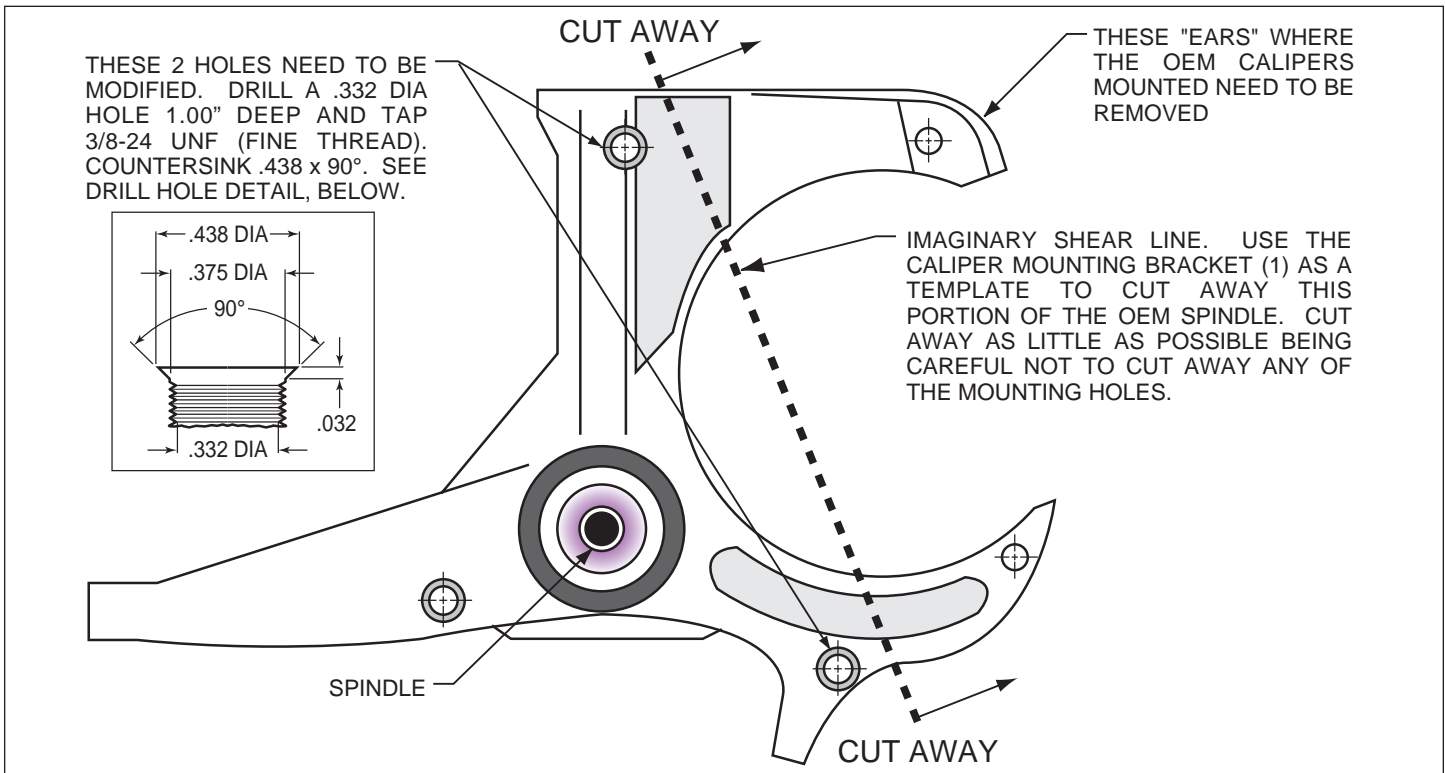

Figure 1. Steering Arm / Spindle Modifications
NOTE: These modifications should be performed by a qualified machinist and completed before assembly of the Wilwood disc brake kit begins. Refer to Figure 1 on the following page as necessary (numbers in parenthesis refer to the parts list on page three). Only one view of the steering arm/spindle is shown, but the modifications need to be performed on both steering arm/spindles.
The two OEM holes that will be used to mount the caliper mounting bracket (1) need to be modified. Drill a .332 diameter hole through both holes, Figure 1, then tap 3/8-24 UNF (fine thread). Countersink the holes to .438 x 90°. The “ears” that protrude to form a “C” shape need to be removed to facilitate the installation of the Wilwood kit. Using the bracket as a template, mark two cut marks on the steering arm. Remove as little as necessary from the “C” shape, being careful not to cut away any of the mounting holes required to bolt on the bracket.